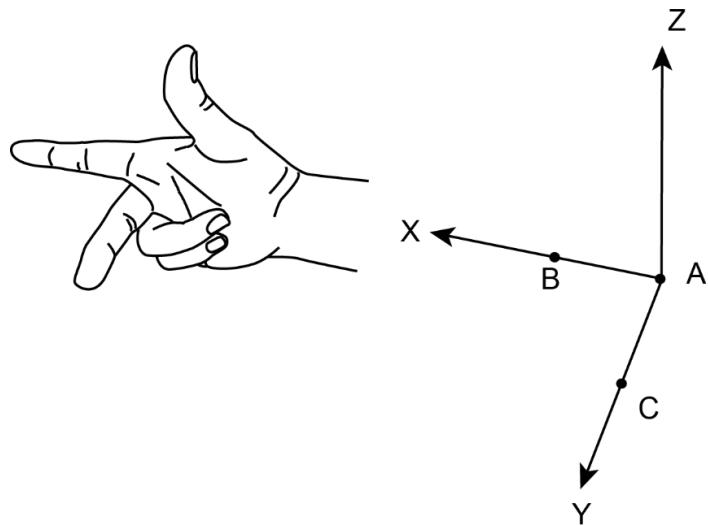

Figure 1.7 Area
- **Area:** User coordinate system is created by three-point calibration method. Move the robot to three points  $A(x_1, y_1, z_1)$ ,  $B(x_2, y_2, z_2)$ , and  $C(x_3, y_3, z_3)$ . Point A is defined as the origin and the line from point A to Point B is defined as the positive direction of X-axis. The line that point C is perpendicular to X-axis is defined as the position direction of Y-axis. And then the Z-axis can be defined based on the right-handed rule, as shown in Figure 1.7.